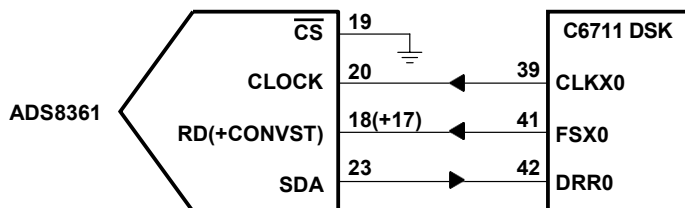

Figure 1. Hardware Interface Block Diagram
The hardware interface is seamless between the C6711 DSK and the ADS8361 EVM. The DAP data acquisition system interface board provides direct access to the C6711 DSP McBSP ports (note: this report uses McBSP1). The hardware connections are shown in Figure 1 via the DAP data acquisition system interface board. The CLOCK, RD(+ CONVST), and SDA pins from the ADS8361 are connected to CLKX1, FSX1, and DRR1 pins of McBSP1 respectively. The chip select (CS) pin is grounded because only one A/D converter is placed on the port. If more than one device is on the bus, then chip select should be controlled by any available GPIO on the C6711DSK.